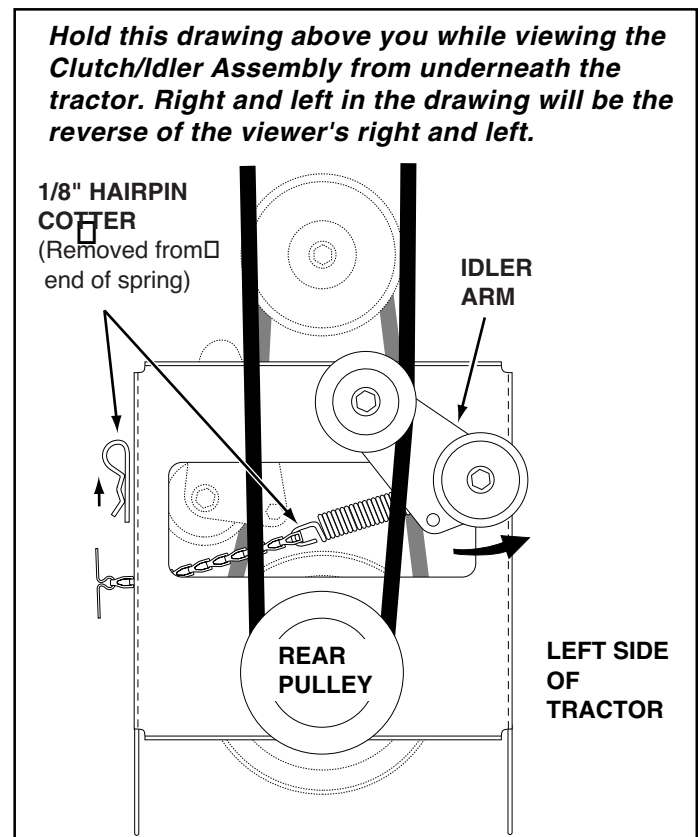

FIGURE 31
9. Remove the 1/8" hairpin cotter that secures the end of the idler arm spring to the right side of the clutch idler assembly. Swing the idler arm to the left side. See figure 31.
10. Place the auger belt around the rear pulley and between the two pulleys on the idler arm. The "V" side of the belt must be seated in the grooves of the "V" pulleys. See figure 31.
8. Assemble the belt onto the clutch/idler assembly. Refer to figures 31 and 32 on pages 15 and 16.